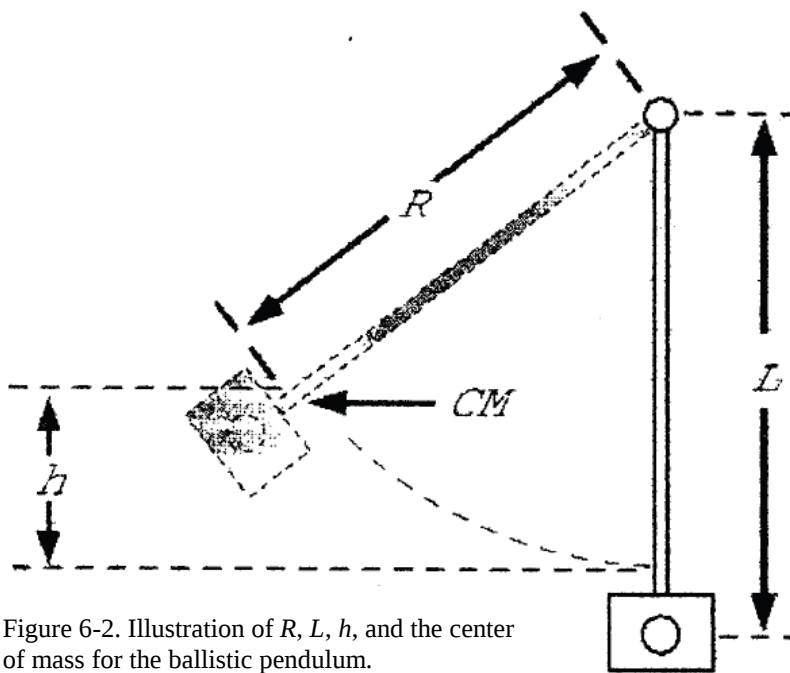

Figure 6-2. Illustration of R , L , h , and the center of mass for the ballistic pendulum.
where L is the perpendicular distance from the center of the ball to the top of the pendulum truss, and R is the distance from the top of the pendulum to its center of mass. See Fig.6-2. Since the pendulum bob is at the bottom of its swing at this point, the gravitational potential energy is 0.
Where h is the change in height of the pendulum bob from the bottom of its swing to the top of its swing. See Fig. 6-2.
- Return the pendulum truss (9) to the pendulum support, making sure to tighten the knurled nut (15).
- Measure L , the perpendicular distance from the center of the ball to the center of the shaft (19). See Figure 6-2.